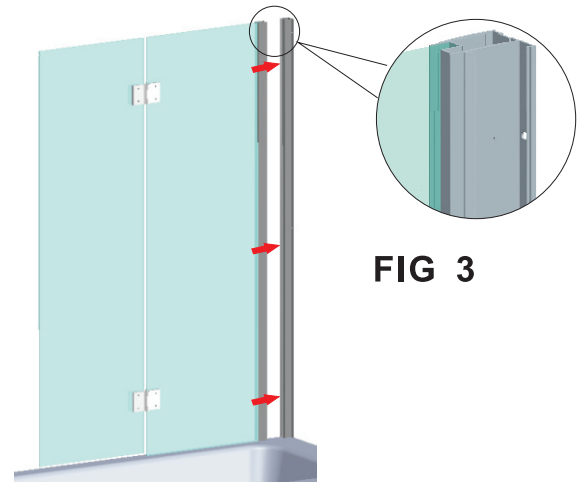

FIG 3
3. Insert the screen into the wall profile. Ensure the bottom edge of the moving panel is parallel to the top surface of the bath. **Fig 3.**